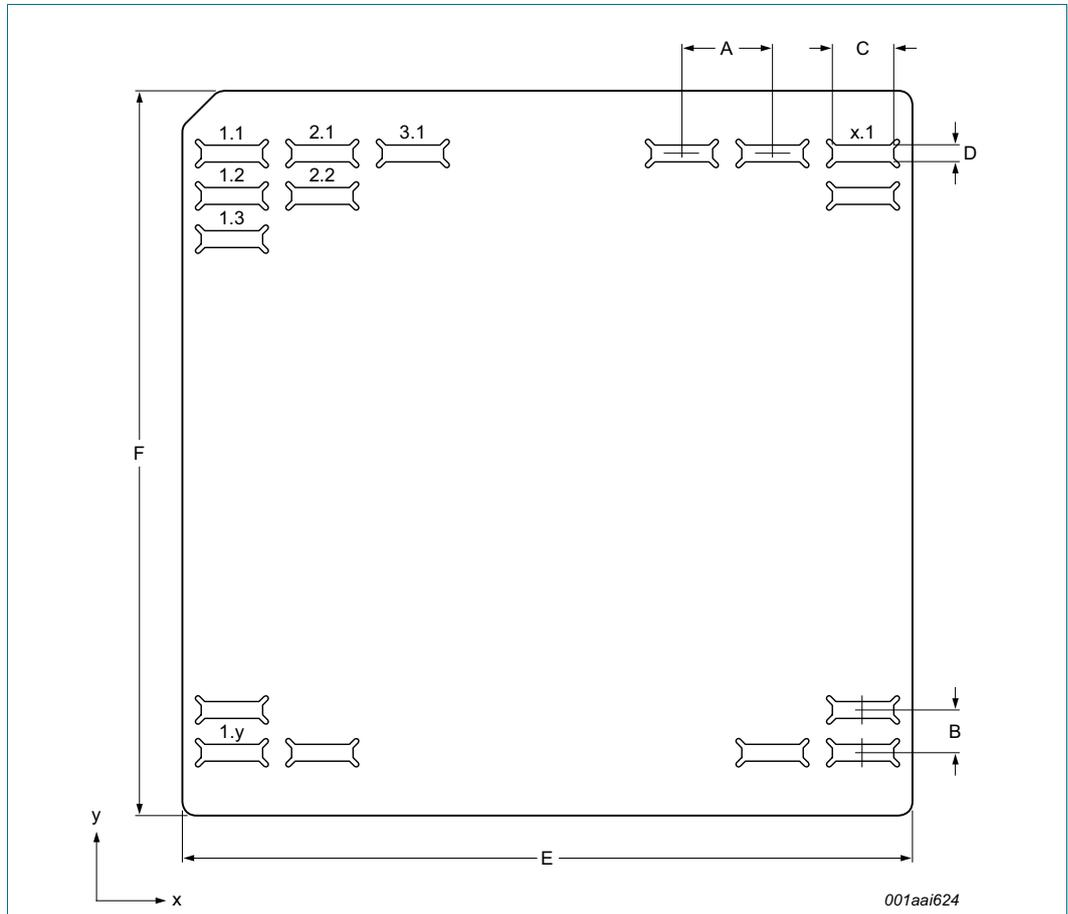

Fig 56. Tray details
**Table 43. Tray dimensions**See Figure 56.